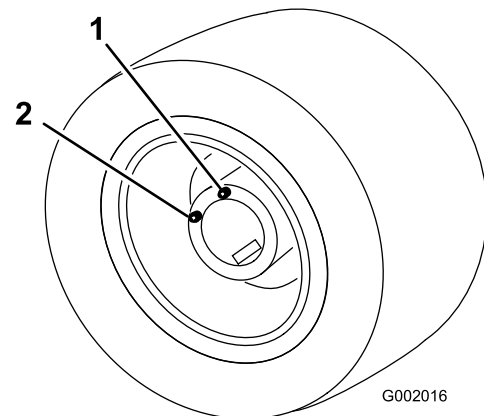

Figure 50
5. Move the vehicle slowly until the wheel is positioned for filling as illustrated in Figure 50